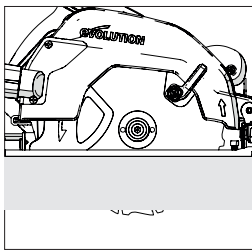

Fig. 12
- In most cases the cutting depth should be set at the thickness of the material to be cut plus the depth of half of a saw tooth (tip of the tooth to the tooth root). (**Fig. 12**)
(13) CUTTING ANGLE (BEVEL) ADJUSTMENT